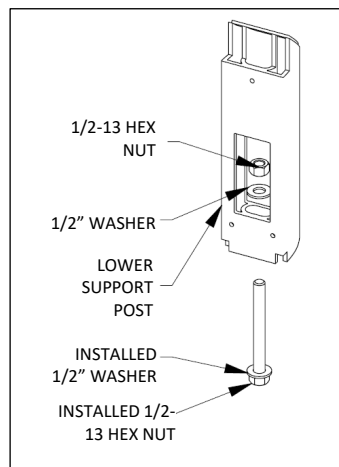

Fig. F2 – lower post install
1. Set lower posts in position – note orientation of access hole. See Figs. F2 and F3. Secure with 1/2-13 nut and washer, included in hardware pack #62600. Do not fully tighten.